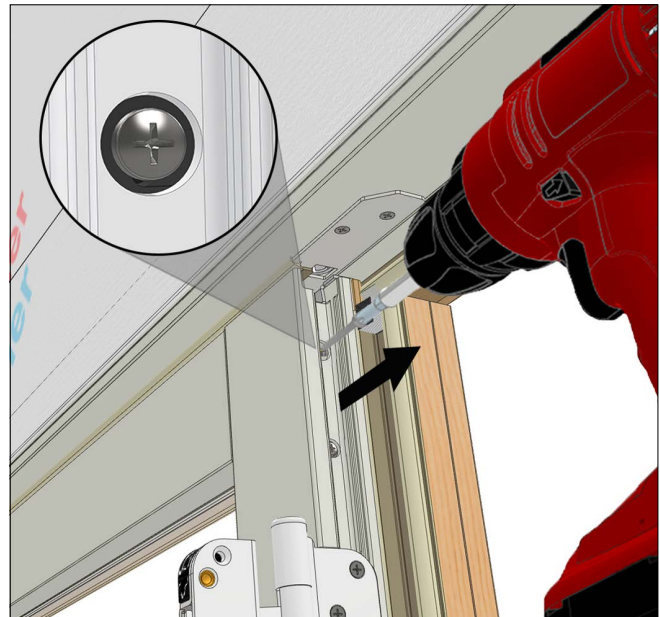

Figure 29
3. Remove one screw (pan head from each panel). See Figure 29.